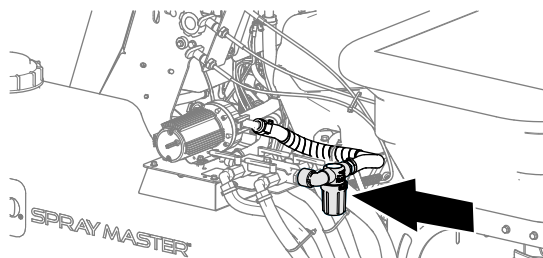

Figure 53
2. Align a drain pan under the strainer (Figure 53).